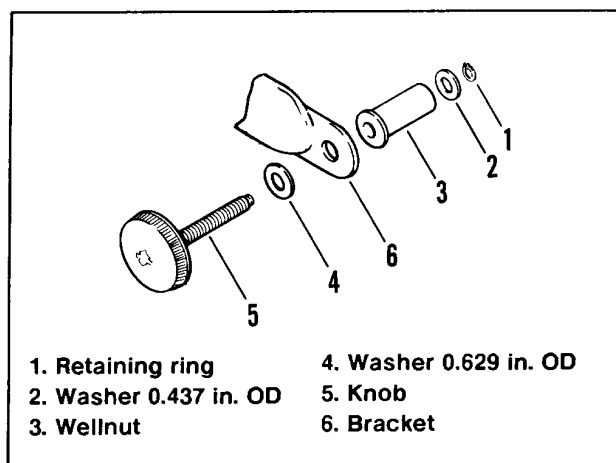

Figure 2. Front Attachment Assembly
1. See Figure 2. Remove retaining ring, or E-clip (1) from original front attachment assembly to be replaced. Remove and discard stock items (2) through (5).